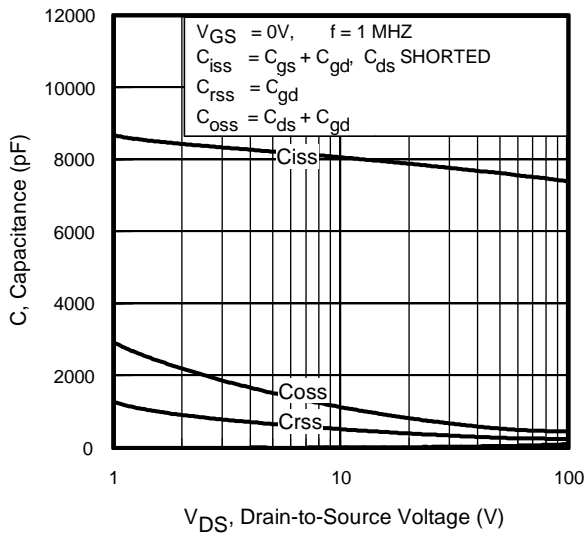

Fig 5. Typical Capacitance vs. Drain-to-Source Voltage
| C _{oss} eff. (TR) | Effective Output Capacitance (Time Related)Ⓢ | — | 720.1 | — | | V _{GS} = 0V, V _{DS} = 0V to 80V Ⓢ, See Fig. 5 |